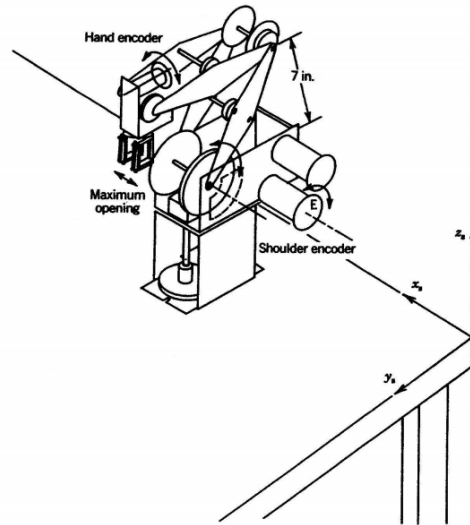

Fig. 01: RHINO Robot description
- 1 Obtain the DH parameters for the 5-link RHINO robot manipulator shown in the figures 01 and 02 (use SI units). Then create the Links and connect them serially to form the Robotic manipulator.